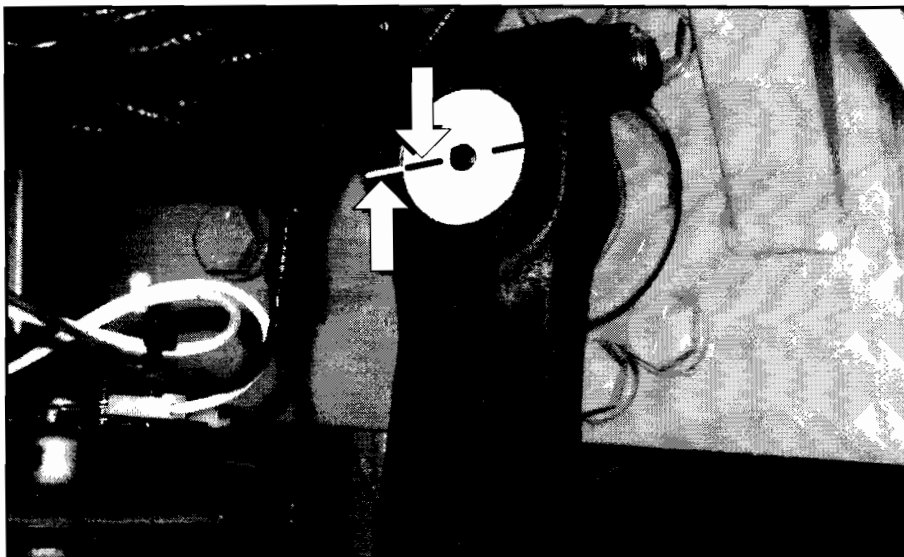

Figure 4.
16. Rotate the steering gear input shaft as required to orient the timing marks scribed on the end of the sector shaft in a horizontal position ( Figure 4 ).